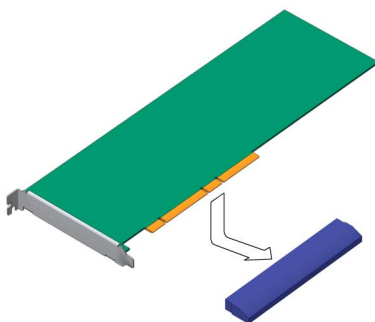

FIGURE 3-69 Installing the PCI-E Card Into the PCI Tray
- 5. Lower the PCI-E card into position on the PCI tray, then slide it to the right to seat it into the connector (FIGURE 3-69).**